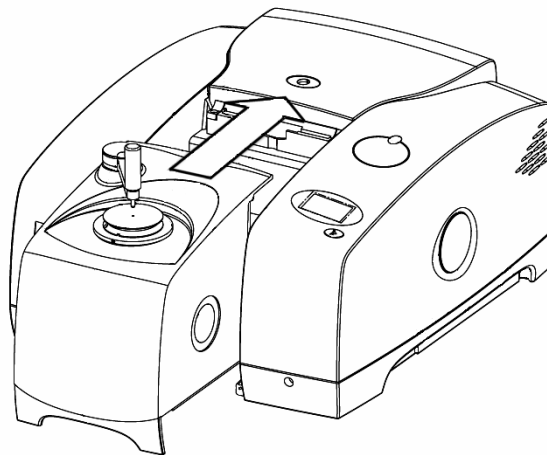

Figure 52 Installing the new sampling accessory
3. Install the new accessory (Figure 52) by sliding it onto the ledge and pushing it into the sample compartment until it engages with the connector.